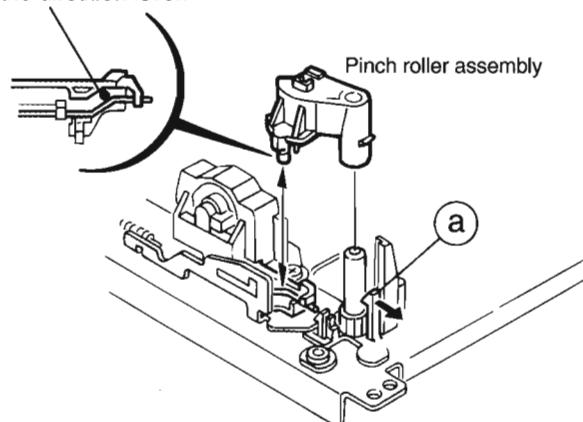

Fig.4
■Pinch roller(FWD/REV)removal (See Fig.4)